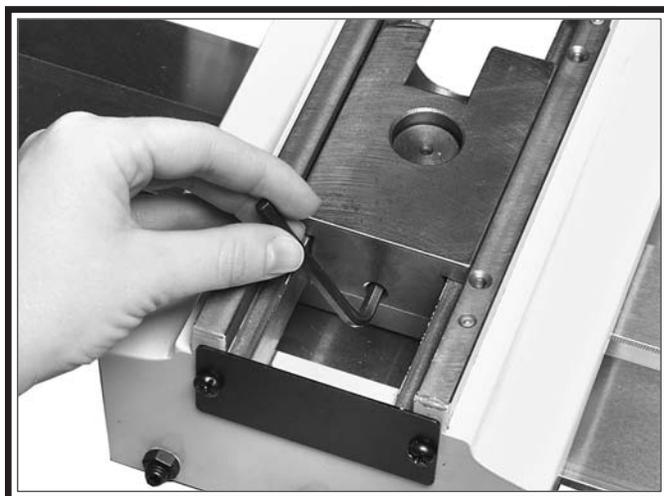

Figure 7. Slide block removal.
8. Using a 5mm hex wrench, loosen the slide block set screw, as shown in **Figure 7**.